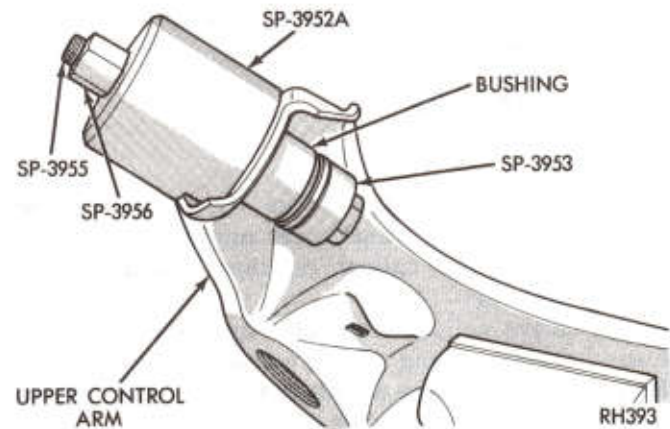

Fig. 10—Removing Upper Control Arm Bushing
- (1) Follow procedure outlined under "Upper Control Arm Removal".
- (2) Place control arm in a vise and assemble Tool C-3962 and adapter SP-3953 (Fig. 10) over bushing, and press bushing out of arm.